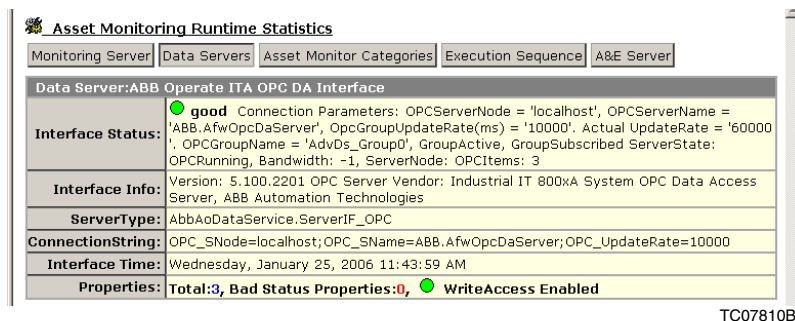

Figure 24. Asset Monitoring Server Runtime Statistics: Data Servers Page
- 2. The **Asset Monitoring Runtime Statistics: Data Servers** page (Figure 24) shows the status of each AssetMonitoring Engine connection to an OPC/DA Server (as defined by the Asset Monitor Data Source Aspect). For each OPC/DA Server connection it provides the number of OPCItems successfully added to the OPC group. This number should coincide with the total properties requested by the AssetMonitoring Engine (the blue number).